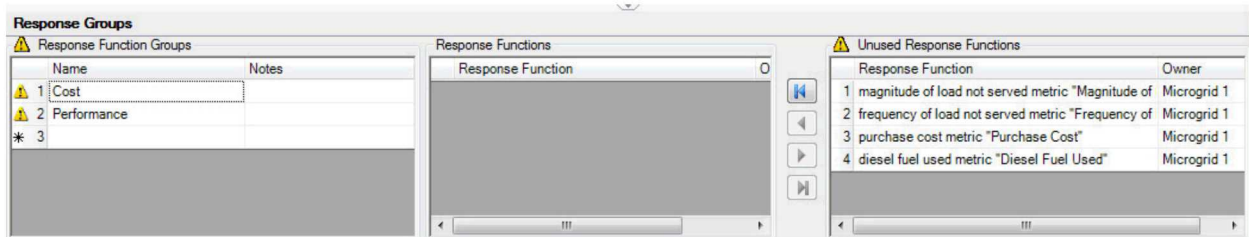
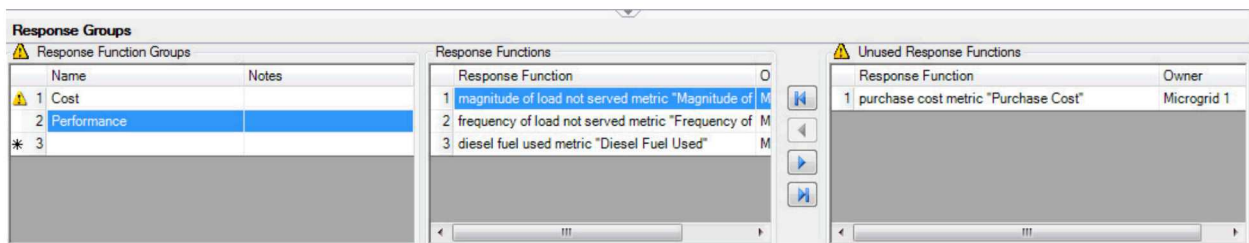

Figure 38. The "Cost" Response Function Group is empty. It contains no metrics.
Figure 39. The "Performance" Response Function Group contains three metrics.
3. Review the metrics in each group (Figure 38, Figure 39).